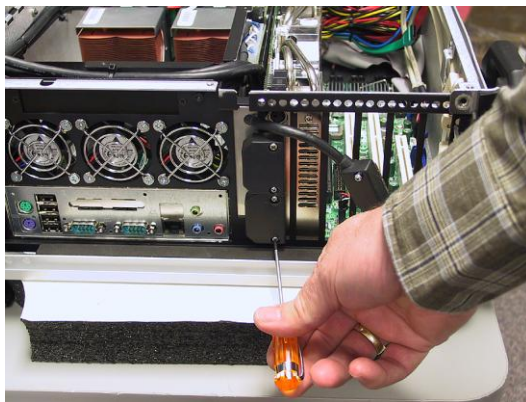

Figure 5-43
- 2) Use a Phillips #1 screwdriver to remove the screws holding the over-molded video cables to the PCI Express graphics card. Gently disengage the over-molded DVI connector from the PCI Express graphics board (Figures 5-43 and 5-44). Removing the bottom DVI connector will expose a screw securing the bottom of the DVI cable bracket. Remove this screw with a #1 Phillips screwdriver.